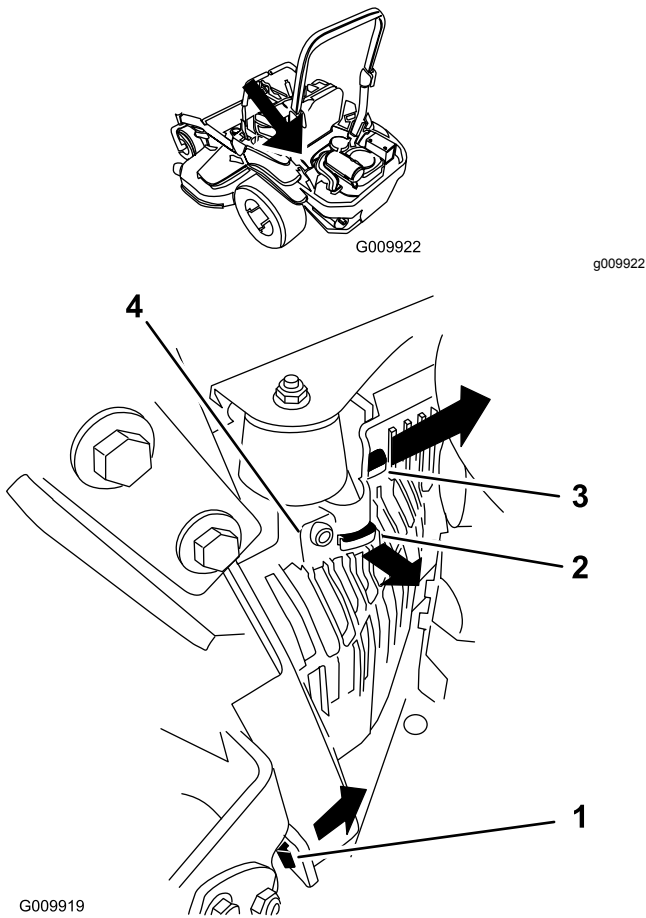

Figure 51
3. Remove the left hydraulic-unit shroud in the order listed with Figure 51. This gives you access to the front spark plug.
5. Install the left hydraulic-unit shroud (Figure 51).